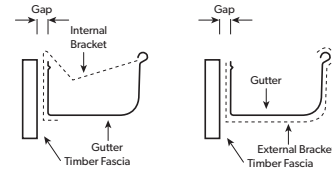

Figure 2
- Insert a back flashing to ensure any water build-up does not overflow the top of the fascia (Figure 2). Instead water will overflow the front scroll/edge of the gutter.